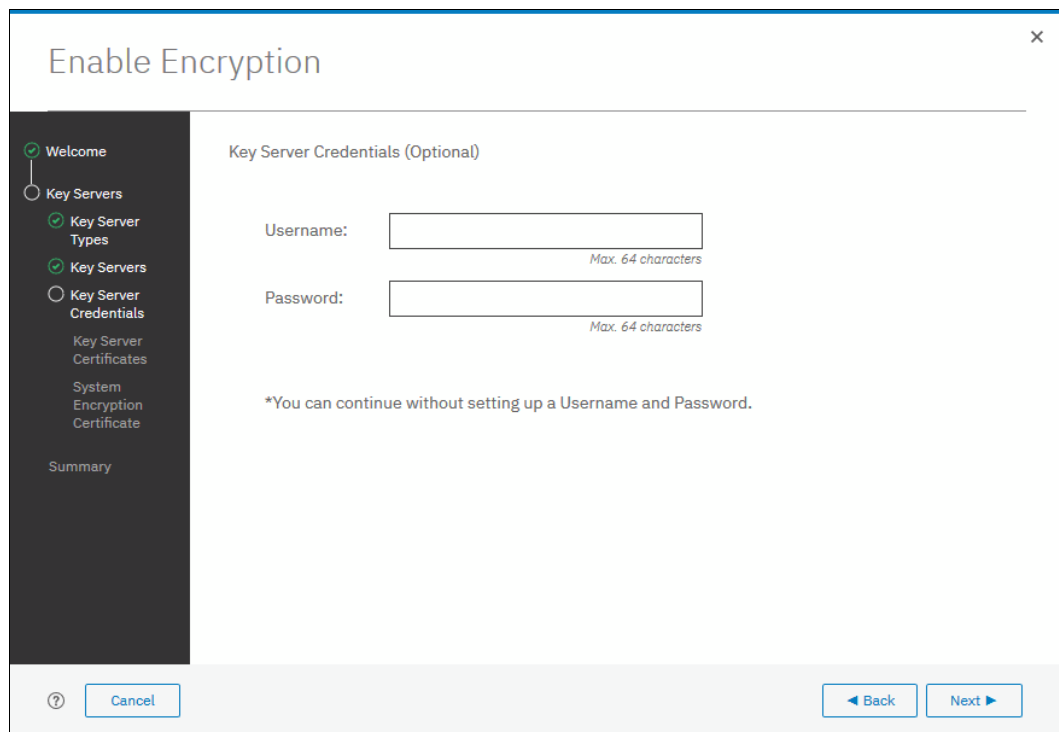

Figure 13-44 Key server credentials input (optional)
- The next window in the wizard prompts for key servers credentials (user name and password), as shown in Figure 13-44. This setting is optional because it depends on how SafeNet KeySecure servers are configured.